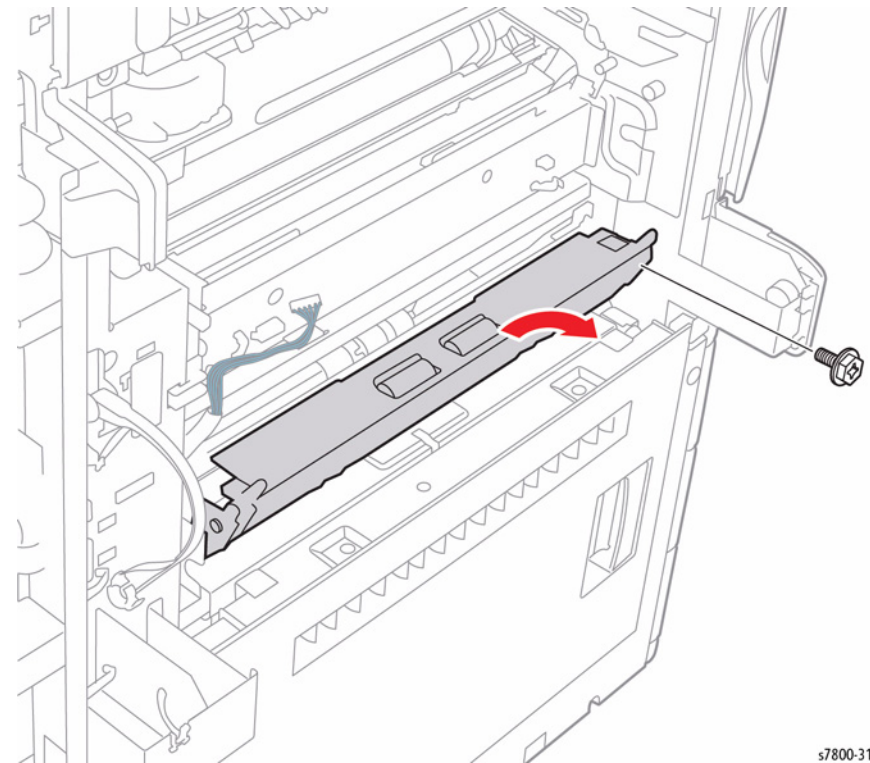

Figure 1 Removing the Chute Assembly
5. Remove the Chute Assembly in the direction of the arrow as shown in Figure 1.